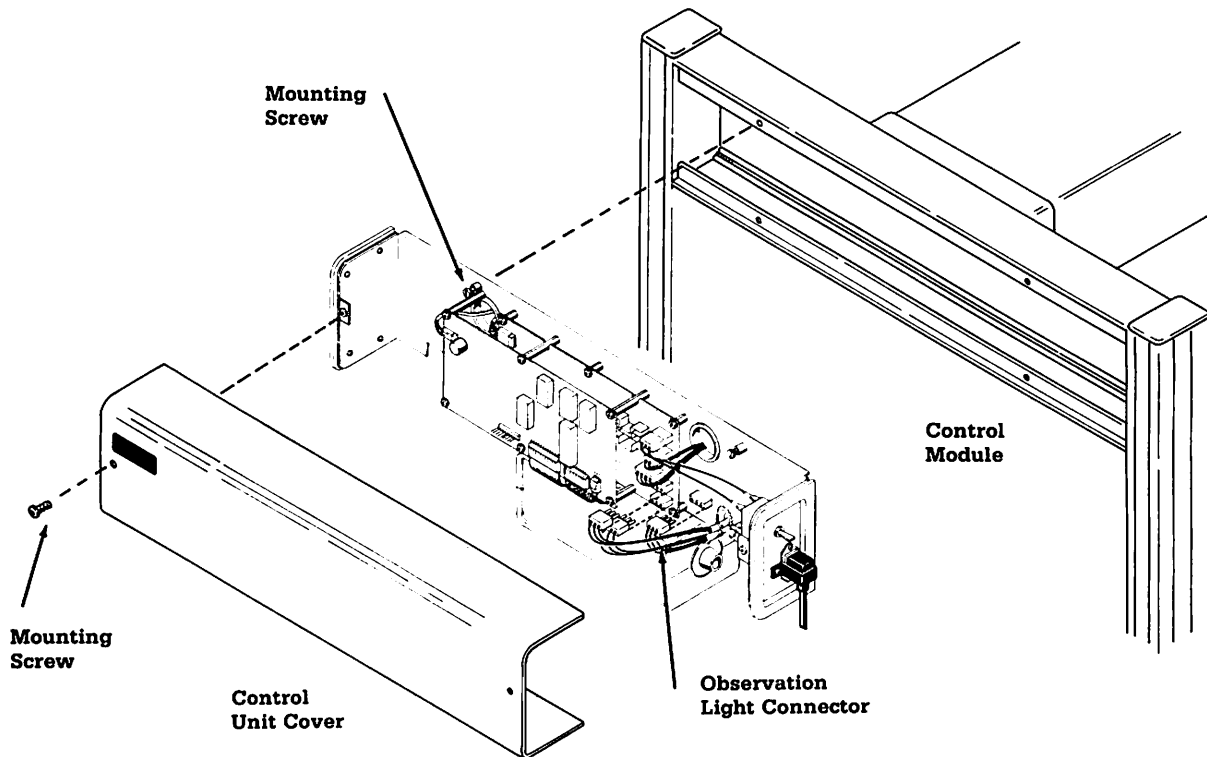

Figure 5-6. Control Module Assembly.
A. Control Module Removal (Figure 5-6)
E. Control Module Replacement (Figure 5-6)
F. Battery Replacement (Figures 5-6 and 5-7)